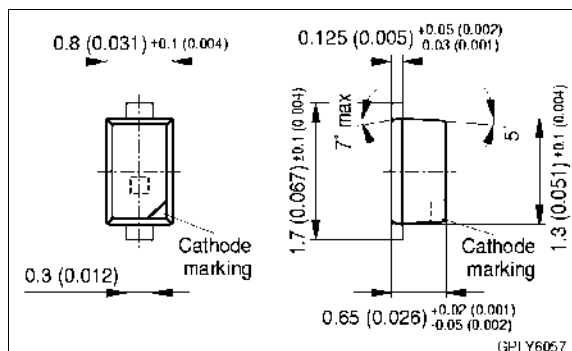

Figure 2 - Dimensions in mm (inch)
- low height: 0.65 mm, see figure 2